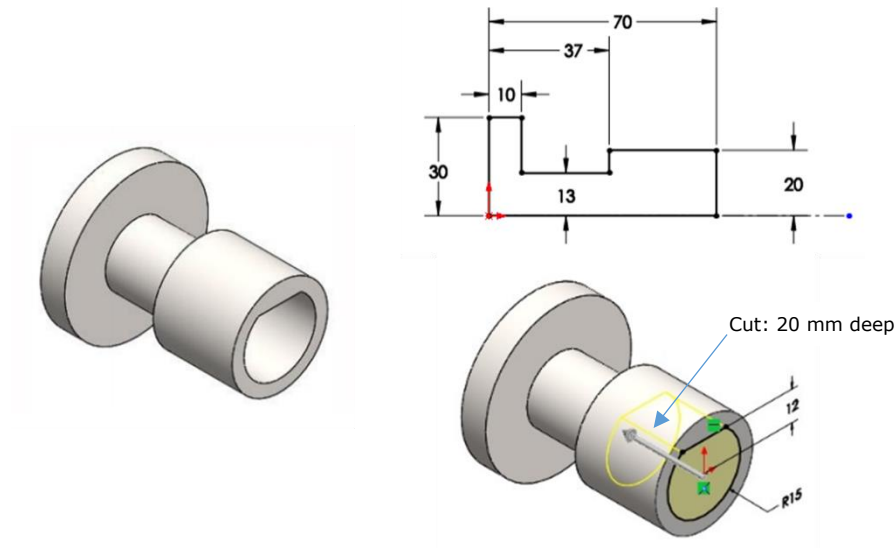

Figure 2: Detail of the gear mount (dimensions are mm).
- 2.) Given the information shown in Fig. 2 create a solid model of the gear mount, save a screenshot, and complete Table 1. Please do your own research to figure out how to change/edit material property of the part (refrain from asking the TA) [25 pts.].